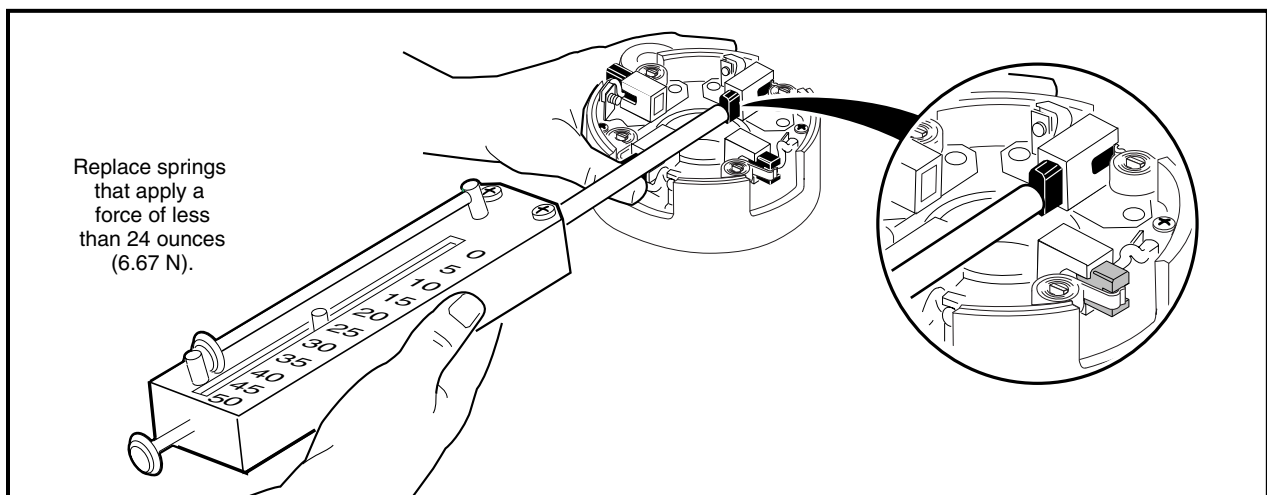

Figure 12b-6 Check Spring Tension
1. Connect the brush wires to the holders using four lock washers (26) and four screws (25). Make sure the crossover leads are also connected. Tighten screws to 31 in-lb (3.4 N·m) (**Figure 12b-4, Page 12b-2**).